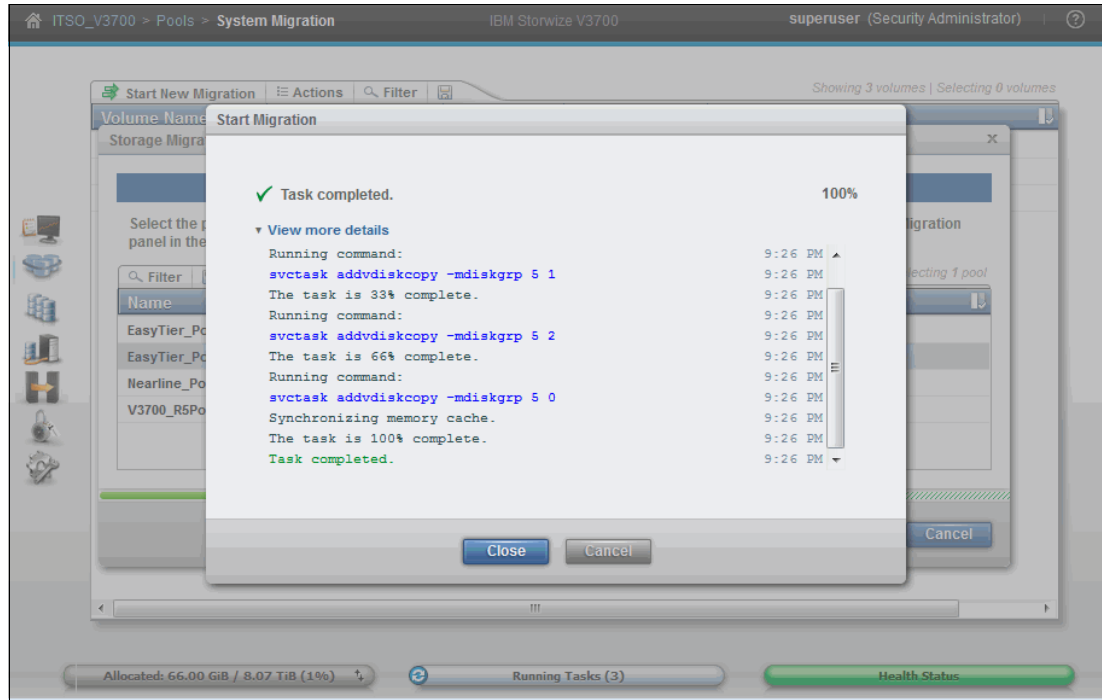

Figure 6-60 Adding volume copies to target pool
3. The task to create volumes in the internal Storage Pool completes, as shown in Figure 6-60. Click **Close** to continue.